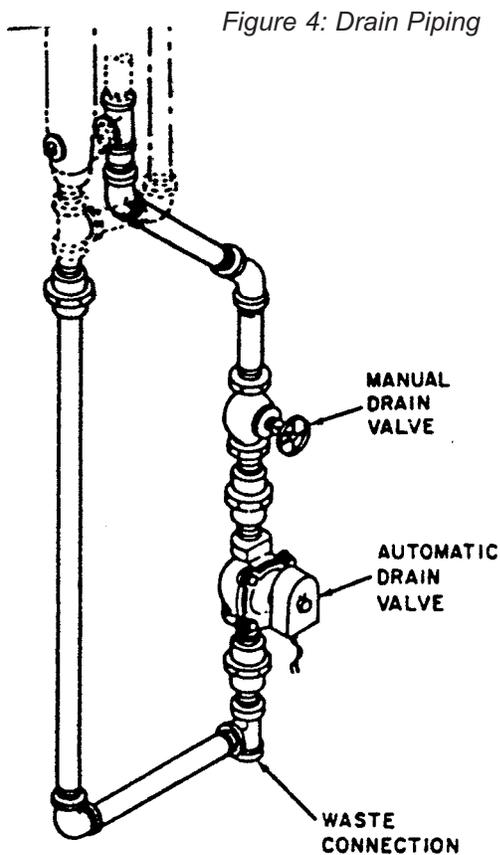

Figure 4: Drain Piping
- H. Install the drain piping as shown in Figure 4. Note that unions are provided in the piping to facilitate assembly.